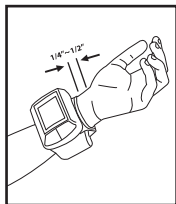

Fig. 2
5. Adjust the cuff 1/4" - 1/2" from the edge of the head of the ulna bone, *Fig. 2*.